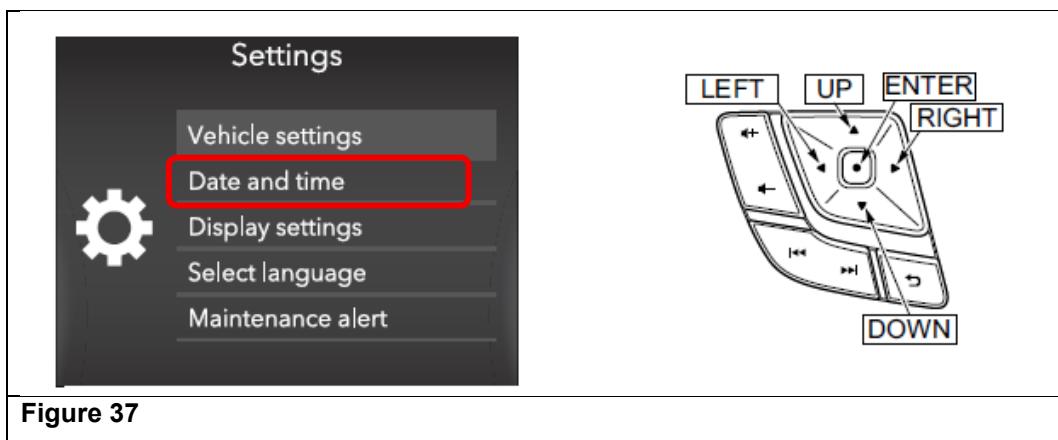

Figure 37
44. Turn the start switch on and use the steering wheel switches on the left side of the steering wheel and navigate through the Multi Information Display (MID) to the “Settings” screen. Then select “Date and Time”. (See Figure 37.)